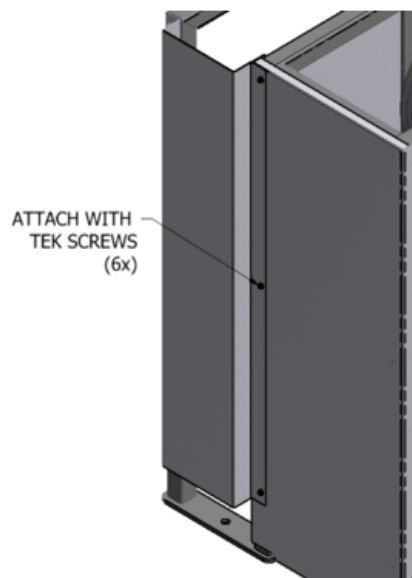

Figure 1
- Align the Sheet Metal Gate Guard flush to the top of the operator and the inside of the throat as shown in **FIGURE 1**.